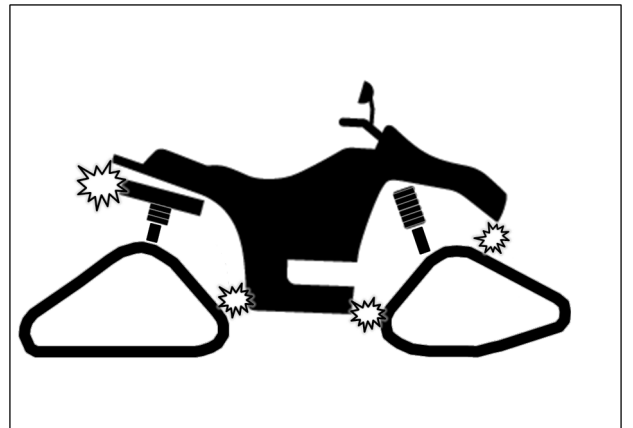

Fig. 22
- Verify for possible contact between Track System and lower fender corners. See Fig. 22